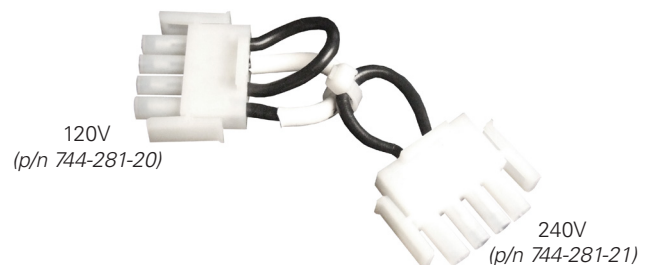

Fig. 2-18, 120V/240V Connector
2. Connect the appropriate connector to the transformer harness. For the 120V configuration, connect the end with two wires. For the 240V configuration, connect the end with only one wire (see **Fig. 2-18**).